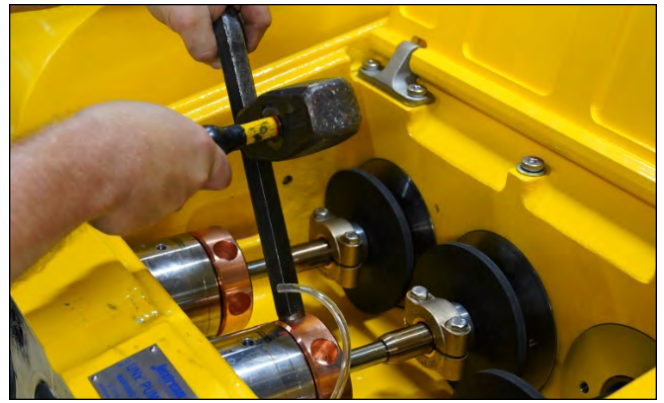

Figure 50: Loosening the Gland Nut.
5. Insert the rounded end of the pump wrench (Figure 50) into one of the holes in the gland nut and tap the top of the wrench sharply with a heavy hammer to loosen. When loose, unscrew the gland nut from the stuffing box by hand.